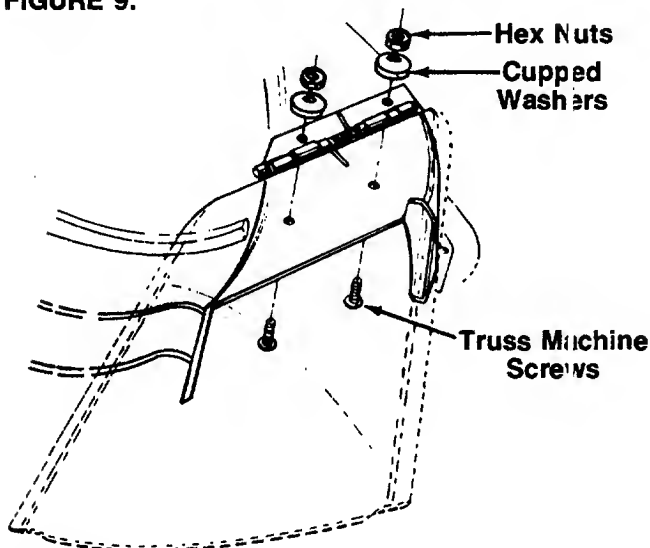

FIGURE 10.
2. Place the chute deflector in position as shown in figure 10. Secure with hardware just removed. ←